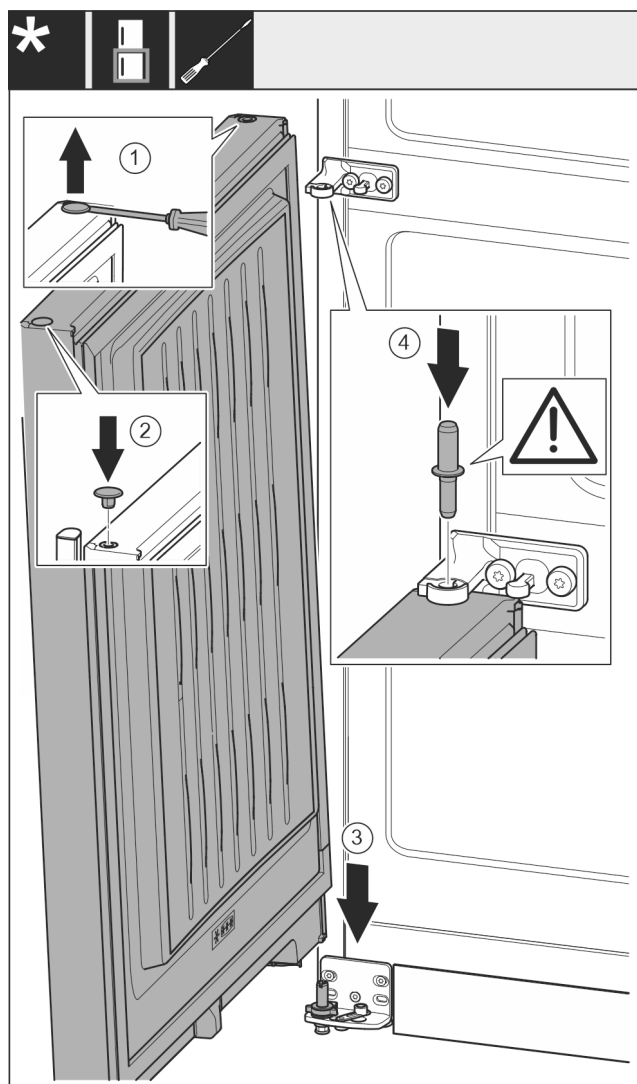

Fig. 17
- ▶ Carefully lift up the plugs with a slotted screwdriver and pull them out. Fig. 17 (1)
- ▶ Insert the plugs again on the other side of the door. Fig. 17 (2)
- ▶ Place the door onto the lower bearing pins from above. Fig. 17 (3)
- ▶ Insert the centre bearing pin through the centre bearing bracket into the lower door. Make sure that the latching lug is pointing to the rear. Fig. 17 (4)